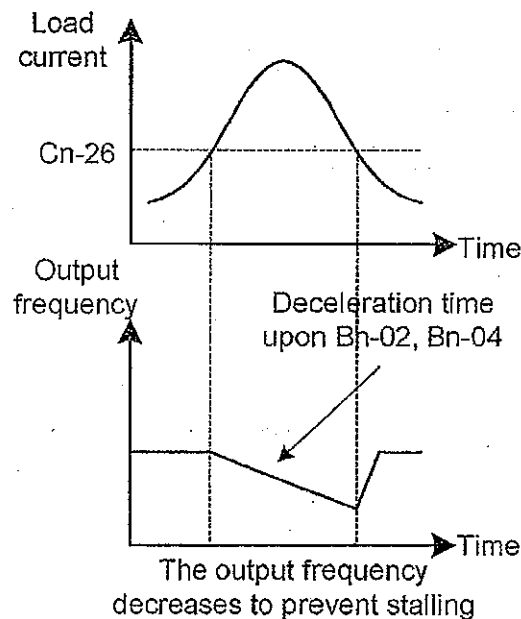

Fig. 24 Run stall prevention function
- Stall Prevention During running : See Fig.24. Deceleration is started if the run stall prevention level Cn-26 is exceeded, especially when an impact load is applied suddenly. Accelerate again when the current level is lower than Cn-26.